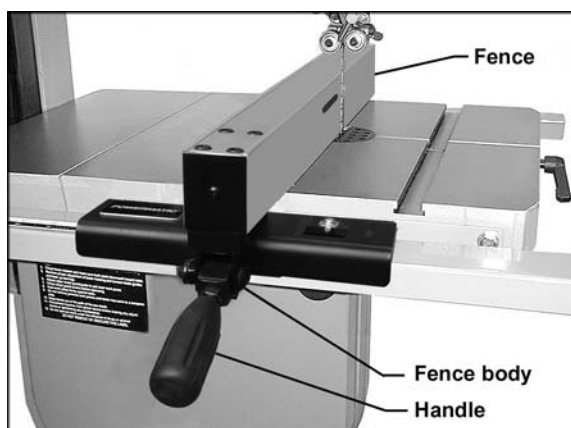
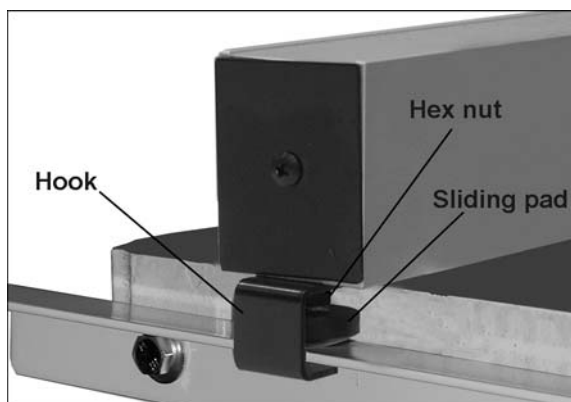

Figure 28
Figure 29
- Lift up the fence handle and hook the fence assembly over the rear rail, and onto the guide rail, as shown in Figure 28. The sliding pad (Figure 29) should ride along the top of the rear rail. To adjust, loosen hex nut and rotate sliding pad as needed. Retighten hex nut.
Refer to Figures 29 and 30.
- Adjust the height of the sliding pad at the rear of the fence (Figure 29) if further adjustment is needed to even the gap along the length of the fence.